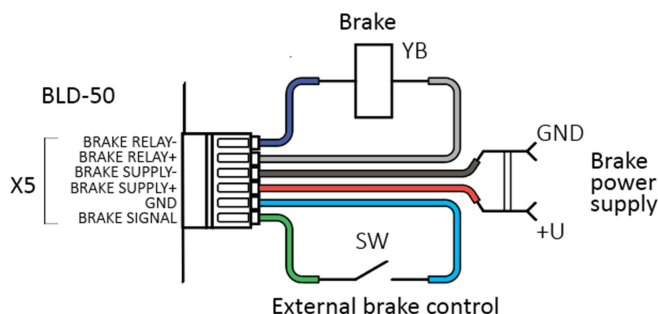

Fig. 6. Brake connection
5. Connect electromagnetic brake of the motor to the terminals in the group X5 if necessary (refer to the section 4.7 and fig.6).